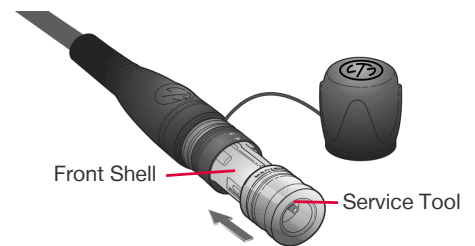

Figure 2-10: DUO Service Tool Installation
- Step 3. Mount the Neutrik Service Tool onto front shell. **(Figure 2-10)**